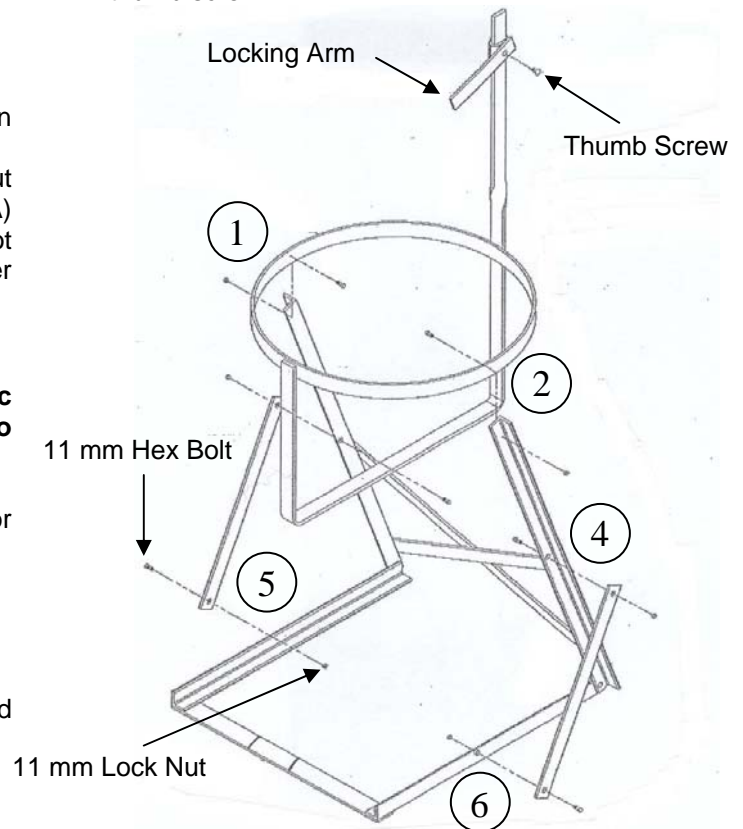

Figure 1
- (1) Secure the base of the tipper by applying the 11 mm hex bolts and locknuts at each of the six points labeled in Figure 1.
- (2) Slide the locking arm in to place, then secure with the thumb screw